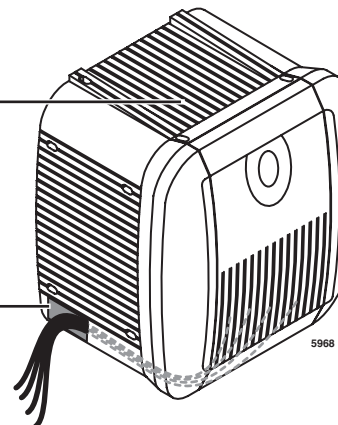

Figure 3-23 Base and Expansion Cabinet Cables and Connectors
2. Remove the left or right cover(s) of the cabinet and knock out the rectangle(s) to create a hole for the cables, as needed (see Figure 3-23).